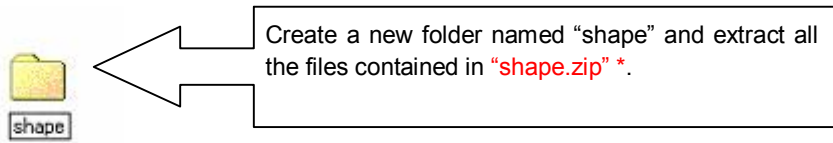

Fig.1
1. Create a new folder named "shape" in your computer (Fig. 1).